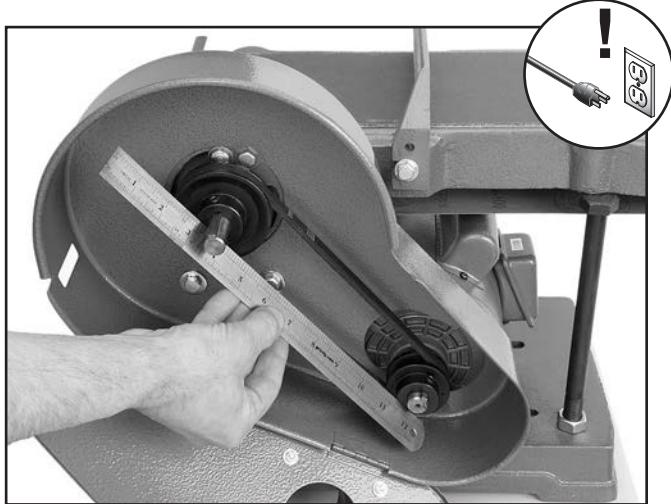

Figure 89. Checking pulley alignment.
5. Place a 12" straightedge across both pulleys, as shown in **Figure 89**.
6. Loosen the set screw on the pulley where you noticed the gap, then adjust the pulley so it touches the bottom of the straightedge when it is extended across both pulleys, as shown in **Figure 89**.